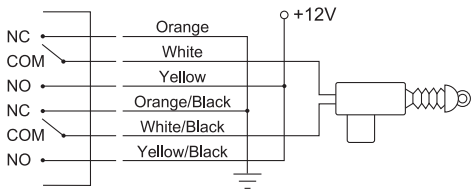

Fig.4 Positive/Negative trigger
2. If car has already been equipped with central control door lock, but there is only one switch in the door to control the other doors, then a motor should be installed to control the switches of the door. (Fig.4, positive and negative trigger)